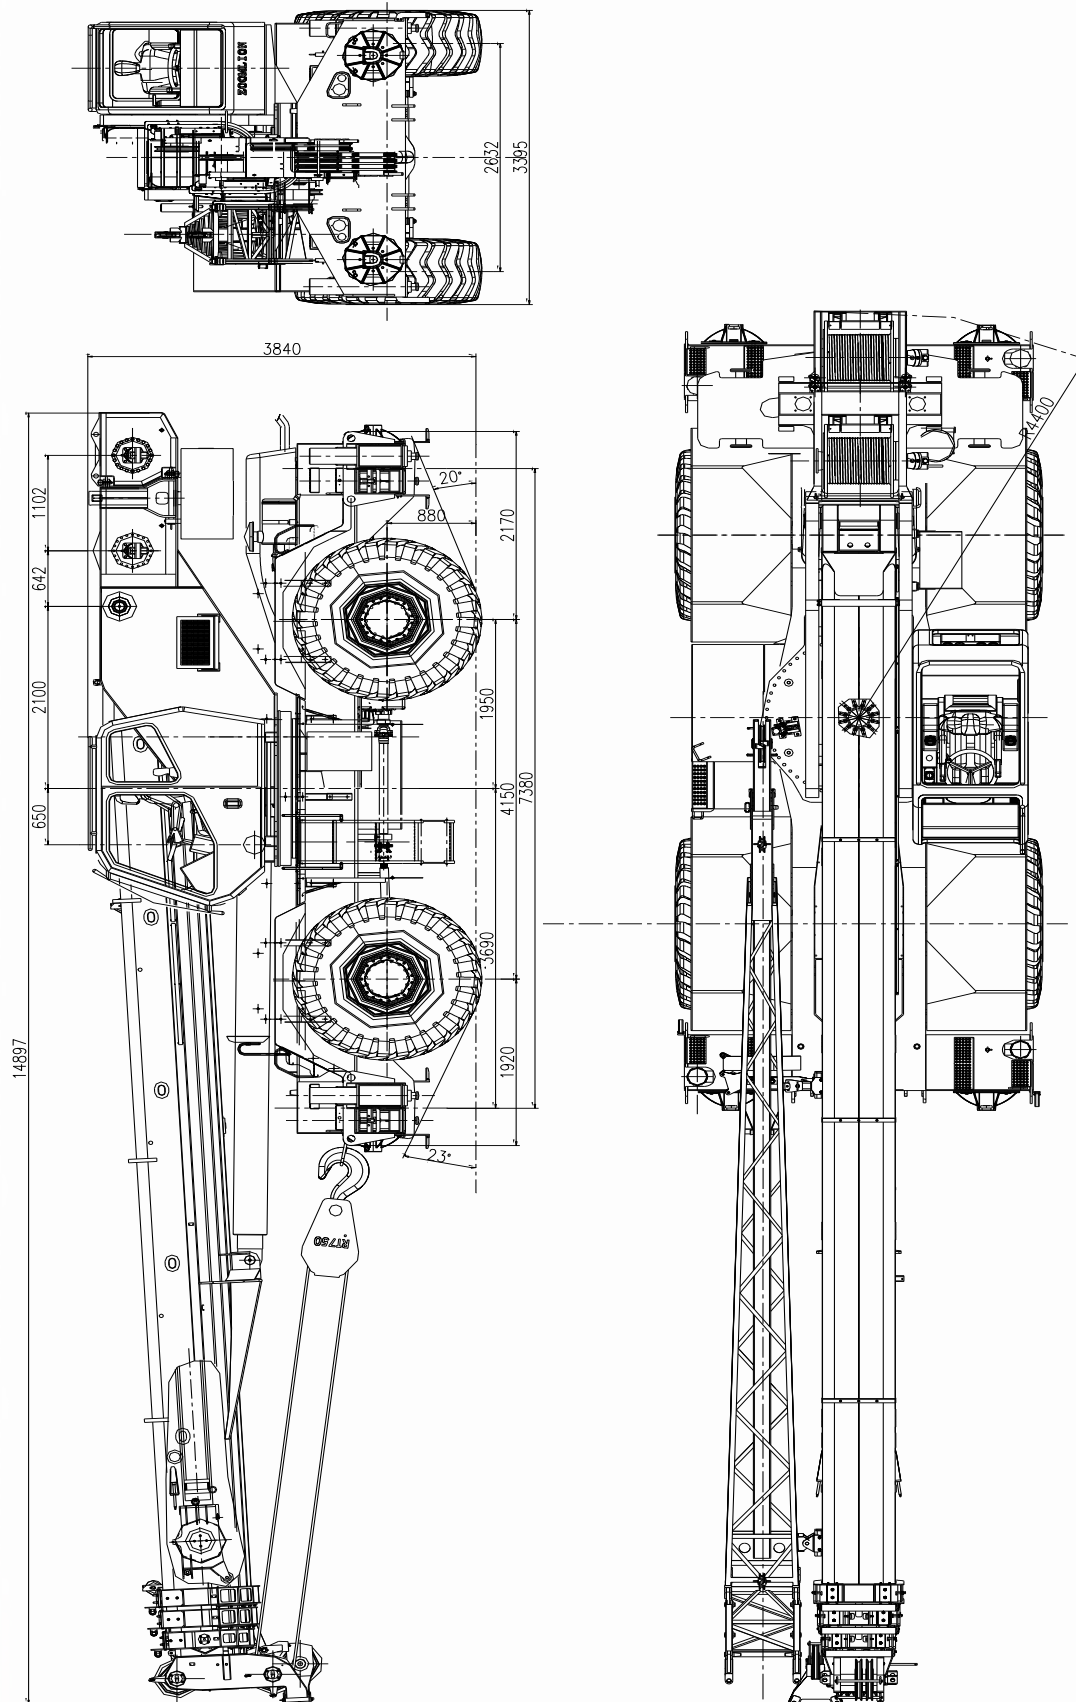

Figure 09 – 1 Overall View – RT75 Rough Terrain Crane
- (1) Four steering modes: 2-wheel steer (front wheel), 2-wheel steer (rear wheel), 4-wheel steer and Crab steer
- (2) Max. rated lift capacity: 82.7ton at 9.8ft 7(5 t at 3 m) radius
- (3) Max. lift height: 186.3ft(56.8 m)
- (4) Max. travel speed: 22mph (36 km/h)
- (5) Overall dimensions: 586ft × 134ft × 151ft (14897 mm × 3400 mm × 3840 mm)(Refer to Figure 09 – 1)
- (6) Deadweight: 58.5ton (53.1 t)
- (7) Ability to pick-and-carry loads
- (8) Rough terrain travel performance